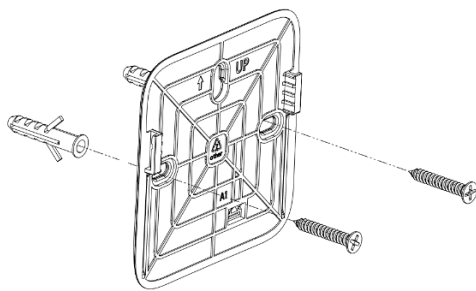

Figure 1
2. Use mounting points on the bracket as a template, mark and drill holes on a mounting surface (Figure 1). Fix the wall mounting bracket to the wall using screws and wall plugs supplied.